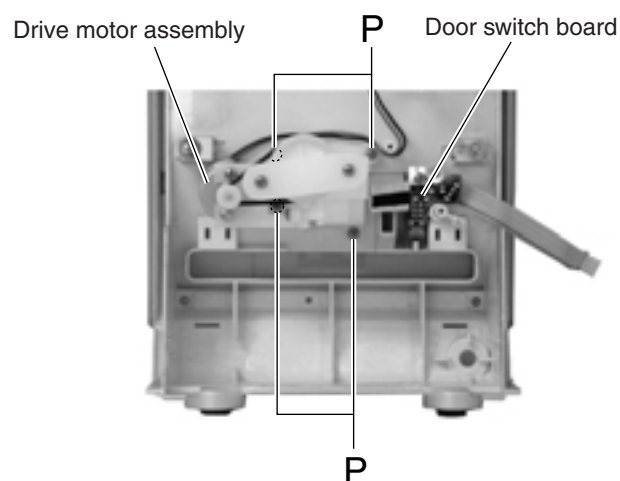

Fig.25
■ Removing the drive motor assembly (See Fig.25)